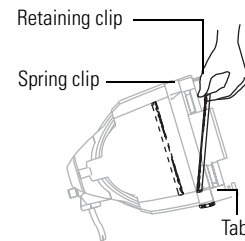

Figure 5
3. Hold the lens by the edge, and position it so the wave side faces the back of the fixture (**Figure 5**).
- The bottom of the lens has a cluster of four notches. Place the two center notches behind the tabs at the bottom of the lens rotating ring. (**Figure 5**)